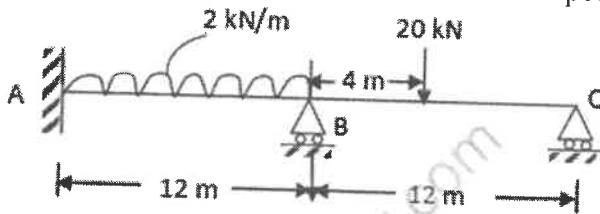

Fig.6
- 9 A continuous beam is loaded as shown in figure 6. The support B sinks by 30 mm. Using slope deflection method analyze the beam. Draw BMD. The values of E and I are 200 GPa and $0.2 \times 10^9 \text{ mm}^4$ respectively.